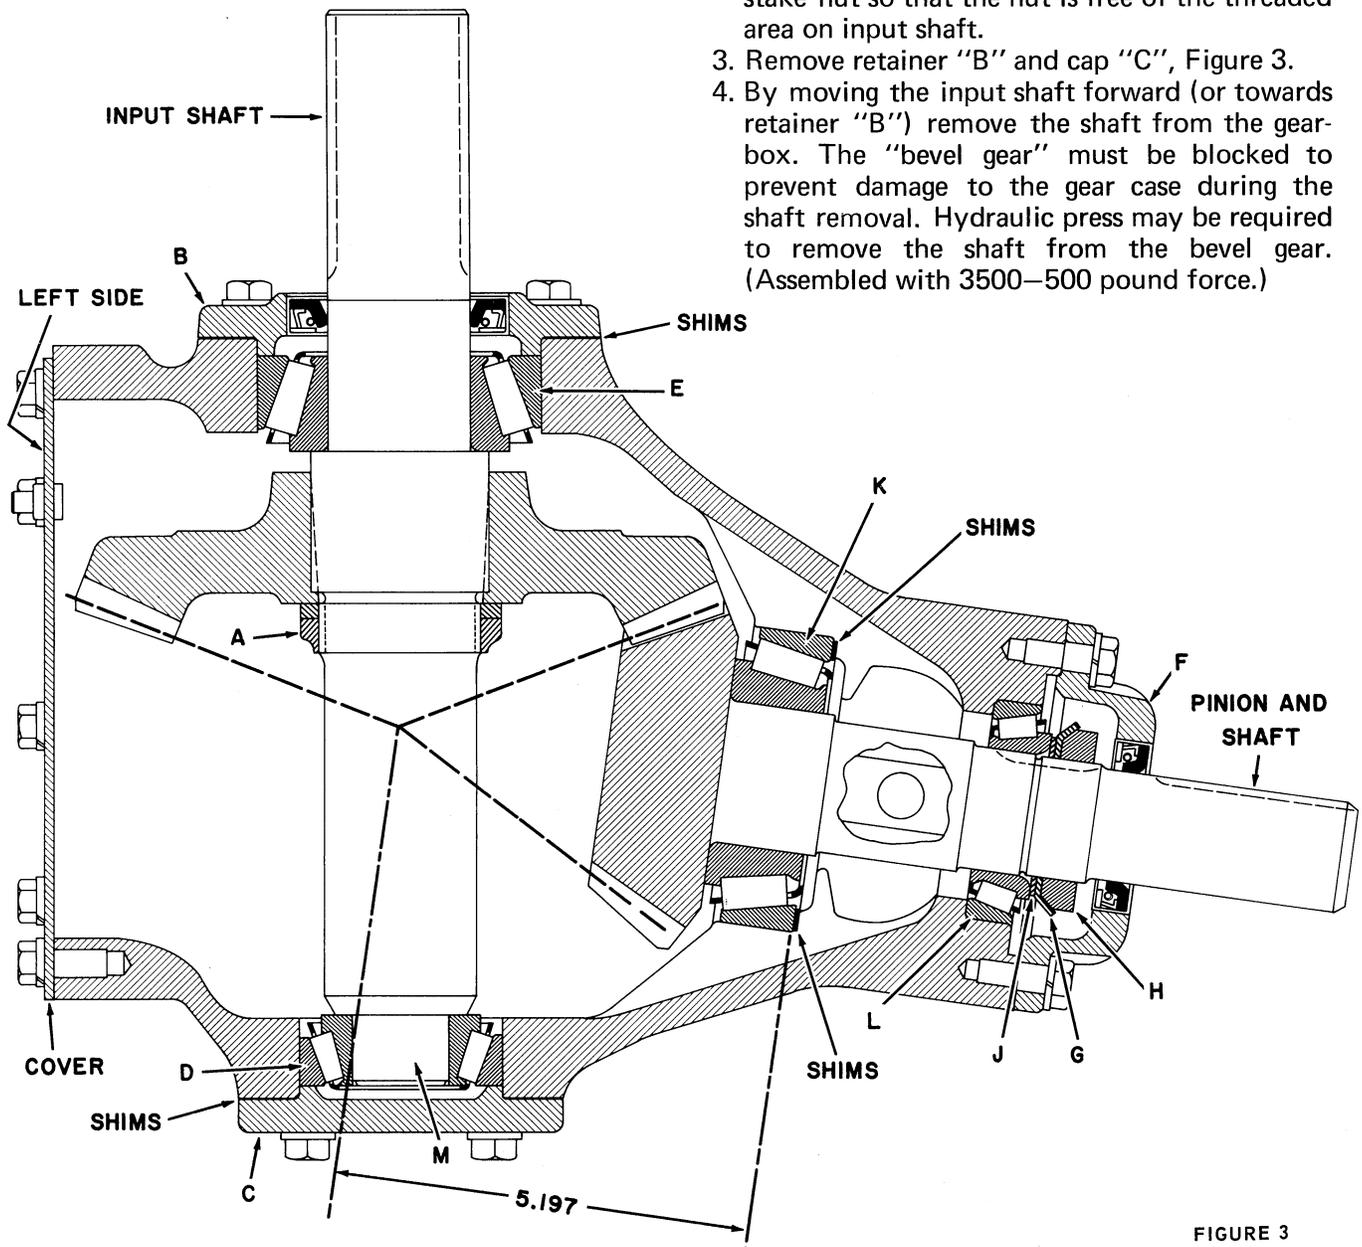

FIGURE 3
2. By means of a punch and hammer loosen the stake nut "A", Figure 3. Continue turning the stake nut so that the nut is free of the threaded area on input shaft.
3. Remove retainer "B" and cap "C", Figure 3.
2. Install bearing cone K on the pinion shaft as shown in Figures 3 and 4. NOTE: Bearing cones may be heated in oil to 250 degrees to ease assembly.
4. Install bearing cup and cone "L" as shown in Figure 3.
8. Install bearings D and E as shown in Figure 3.
12. Install the seals into retainer B and F with the seal lip in as shown in Figure 3.